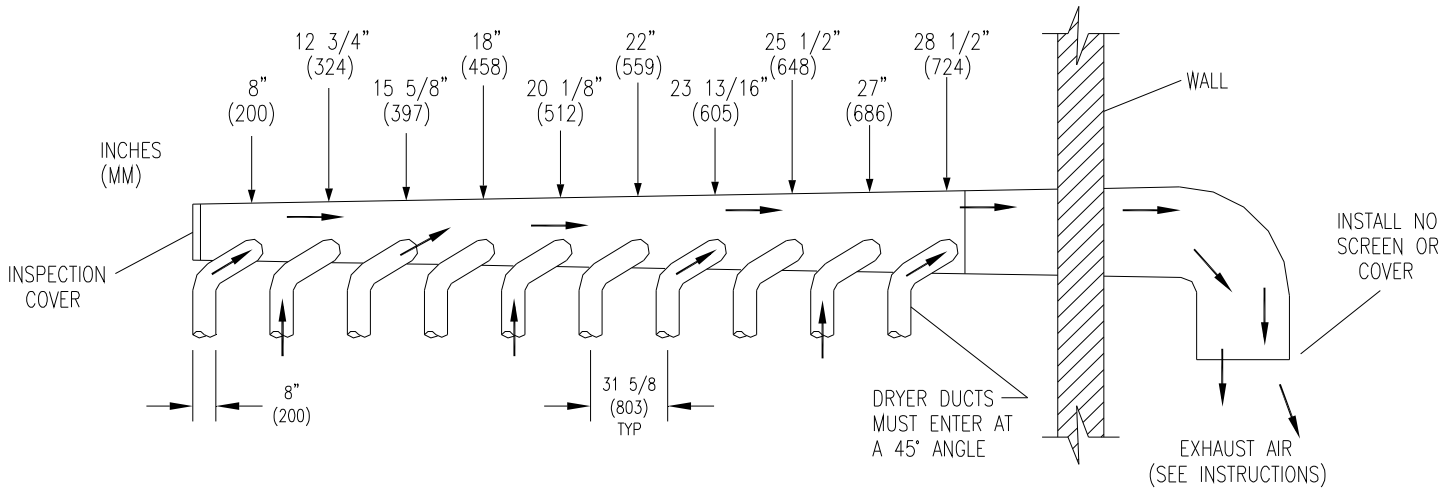

FIGURE 3- Dryer Exhausting Using A Main Discharge Duct.
**6. EXHAUST INSTALLATION.** (Refer to Figure 3) Exhausting of the dryer(s) should be planned and constructed so that no air restrictions occur. Any restriction due to pipe size or type of installation can cause slow drying time, excessive heat, and lint in the room.
Installation of several dryers, where a main discharge duct is necessary, will need the following considerations for installation (see Figure 3). Individual 8" (200 mm) exhaust ducts from each dryer should enter main discharge duct at a 45-degree angle in the direction of discharge airflow.
**NOTE:** Never install the individual ducts at a right angle into the main discharge duct. The individual ducts from the dryers can enter at the sides or bottom of the main discharge duct. Figure 3 indicates the various round main duct diameters to use with the individual dryer ducts. The main duct can be rectangular or round, provided adequate airflow is maintained. The total exhausting (main discharge duct plus duct outlet from the dryer) should not exceed the equivalent of 14 ft. (4.25 m) and two elbows. The diameter of the main discharge duct at the last dryer must be maintained to exhaust end.